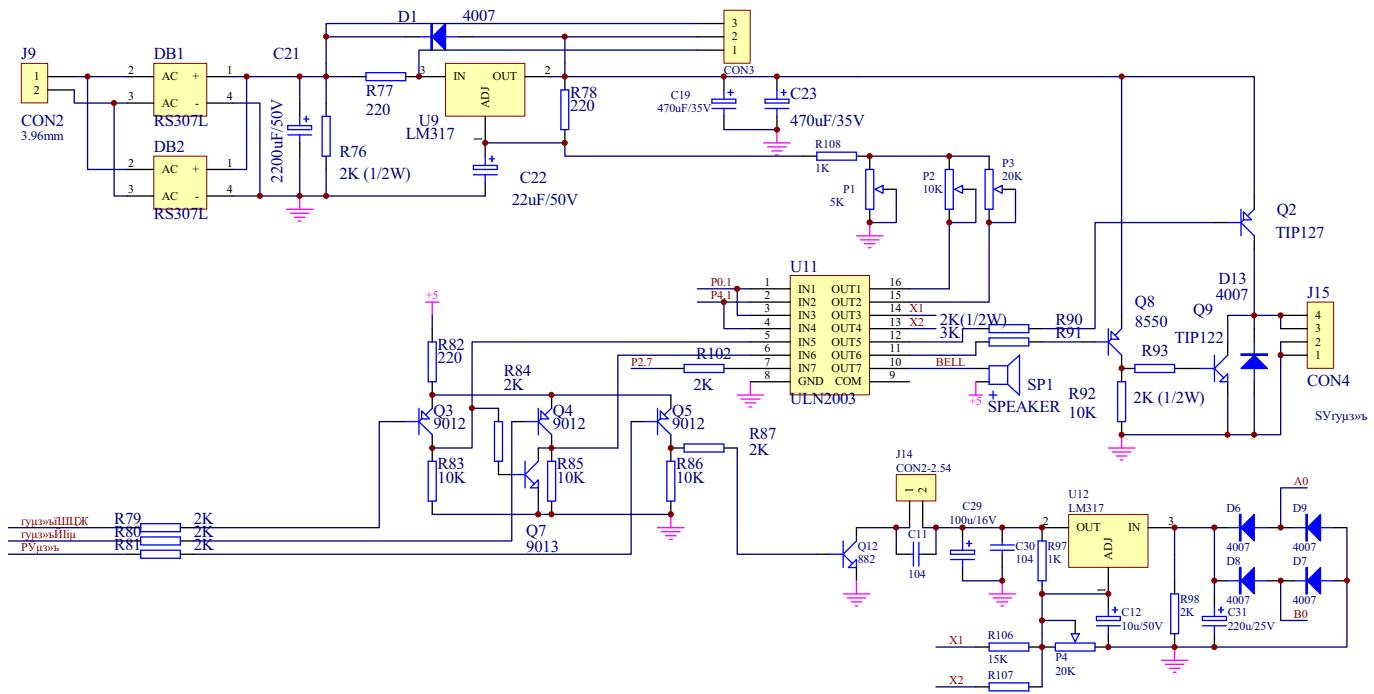

Fig.27A The Controlling Element Diagram of Small Motor
### (1) PRO85, PRO85U Circuit (Fig.27A)
- (1) PRO85, PRO85U Circuit (Fig.27A)